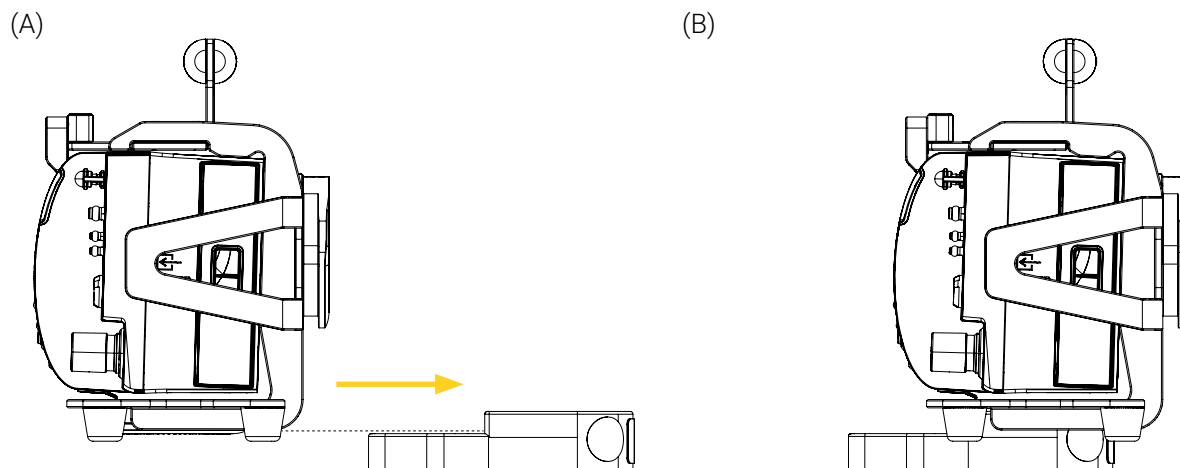
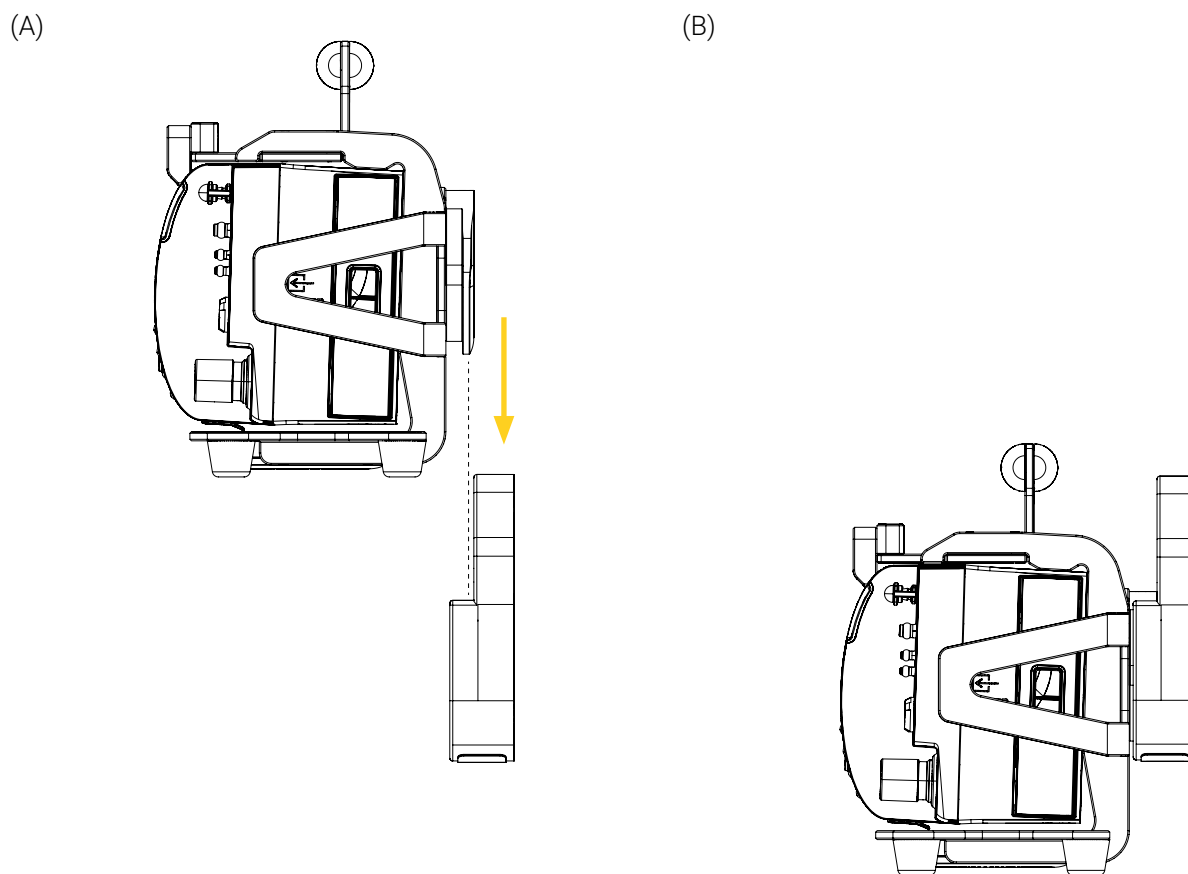

Figure 12: Installing the medical device in the mounting system horizontally
Figure 13: Installing the medical device in the mounting system vertically
1. Align and insert the micro disc located under the mounting bracket of the medical device in the mounting system horizontally (Figure 12) or the anti-rotation micro disc located at the back of the mounting bracket in the bracket vertically (Figure 13) until it locks.